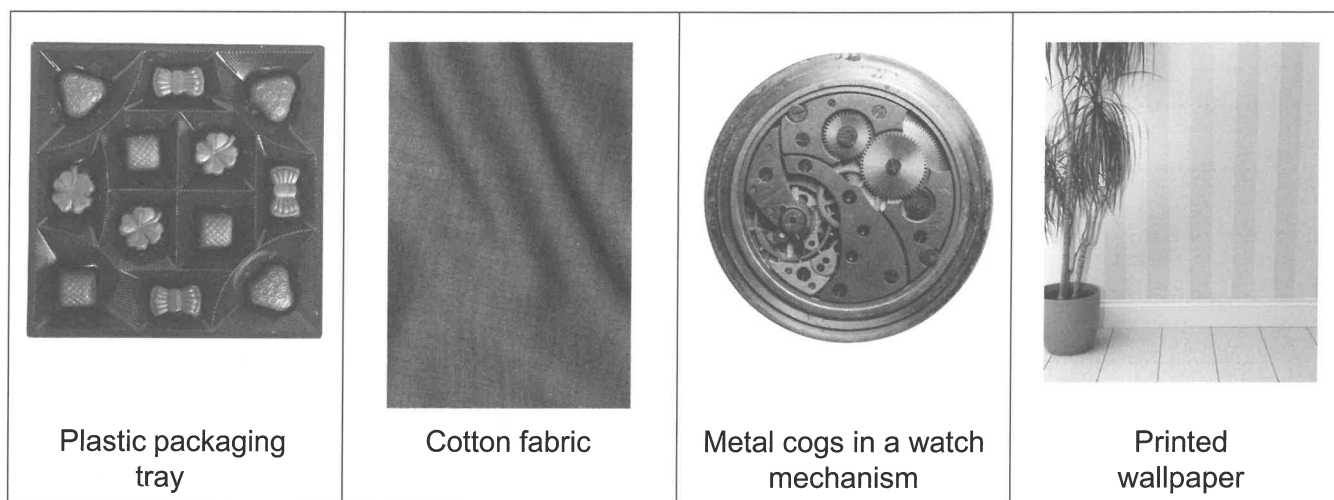

Figure 5
15 **Figure 5** shows a range of different items.
15.1 Choose **one** of the items shown in **Figure 5**.